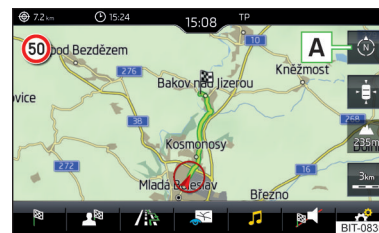

Fig. 183
► To **change the map orientation**, go to the main *Navigation* menu and tap on function surface $\hat{\Phi}$ **A** » Fig. 183.